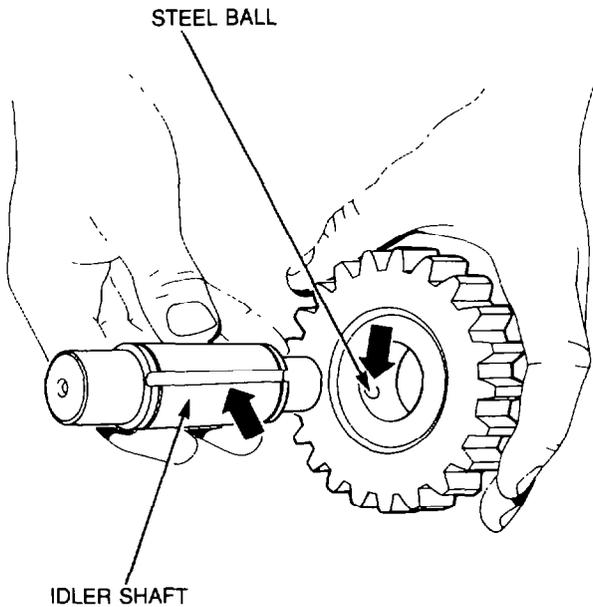
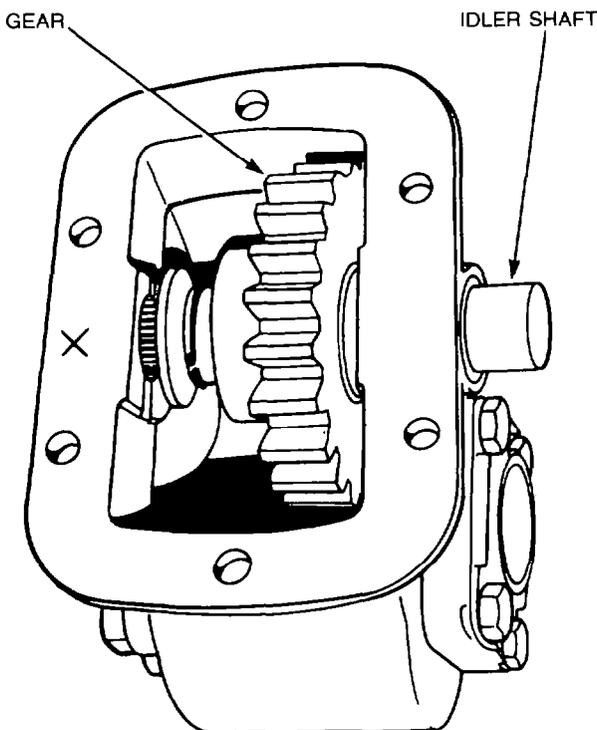

Figure 193 — Channel and Steel Ball
Figure 194 — Installing Idler Shaft and Gear
- f. Position the idler shaft partially into the housing. Install a thrust washer and a circlip onto the shaft. Insert the steel ball into the detent in the idler gear then position the idler gear in the housing. Align the channel in the idler shaft with the steel ball in the idler gear shown in Fig. 193, then push the idler shaft further into the housing and into the idler gear (see Fig. 194). Install the second circlip into the groove on the idler shaft then position the thrust washer on the shaft. Push the idler shaft into the housing, butting the thrust washer against the housing. Position the first thrust washer against the housing and insert